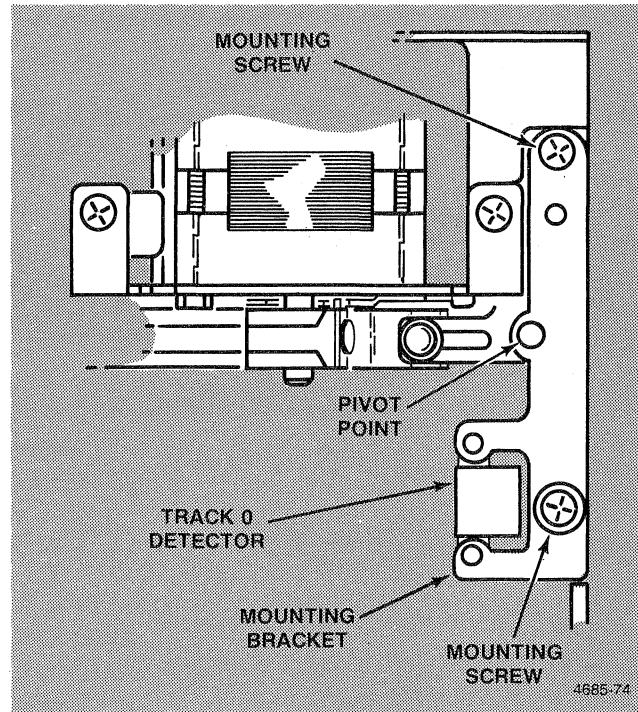

Figure 13-5. Track 0 Detector Bracket Mounting.
7. If TP-8 does not go to 0 V, loosen the Track 0 Detector bracket (Figure 13-5). Adjust until TP-8 goes to 0 V when function key F5 is pressed and goes to +5 V when F4 is pressed.